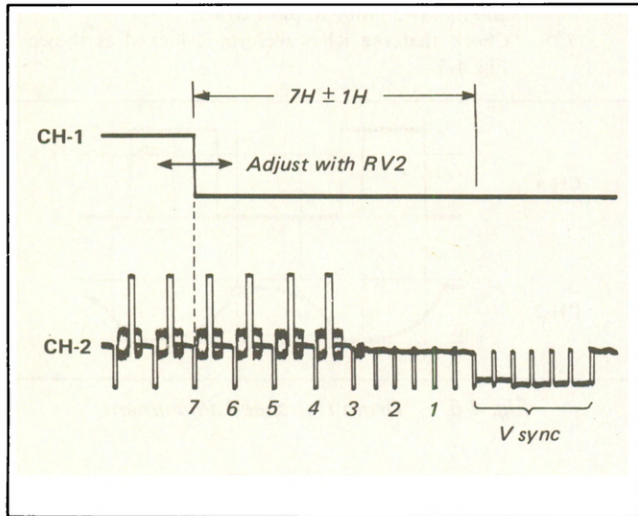

Fig. 4-8. RF switching position adjustment (1)
- (4) Connect the oscilloscope CH-1 probe to TP001 on the SA-3 board and the CH-2 probe to TP11 on the YC-4 board.
- (5) Adjust RV2 on the SA-3 board so that the time between the falling portion of the CH-1 waveform and the vertical sync signal of the CH-2 video signal is $7H \pm 1H$ lines. (See Fig. 4-8.)